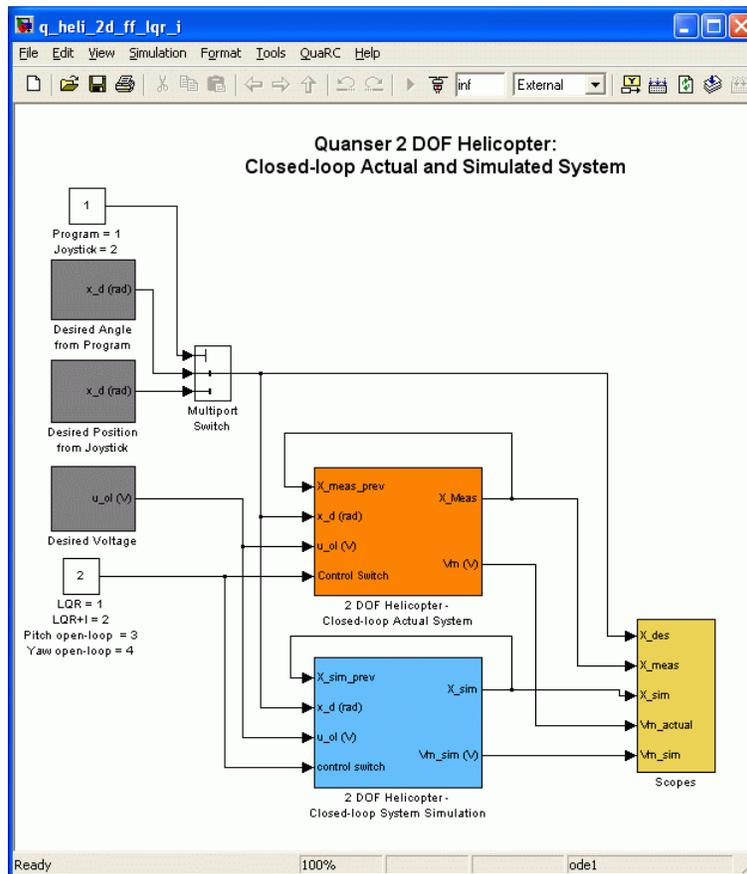

Figure 5.15: Simulink model used with QUARC to run the closed-loop controller on the 2 DOF Helicopter
2. Open Simulink model *q_heli_2d_ff_lqr_i.mdl* shown in Figure 5.15 that implements the closed-loop LQR and LQR+I position controllers.
5. Open the *2-DOF HELI* subsystem shown in Figure 5.15. It contains the QUARC blocks that interface with the hardware of the actual plant. The Analog Output block outputs the voltage computed by the controller to the DAQ board and the Encoder Input block reads the encoder measurements.
9. In the *q_heli_2d_ff_lqr_i* Simulink diagram, make sure the *Program/Joystick* block shown in Figure 5.15 is set to 1 in order to generate the desired angle from Simulink.
21. Alternatively, the desired angle can be generated using the joystick. To use the joystick, set the *Program/Joystick* switch shown in Figure 5.15 to 2. The rate at which the desired angle increases or decreases given a joystick position can be changed using the $K_JOYSTICK_X$ and $K_JOYSTICK_Y$ variables that are set in the *setup_lab_heli_2d.m* script file and the using the *Rate Command* knob. When starting, set the *Rate Command* knob on the joystick to the midpoint position.